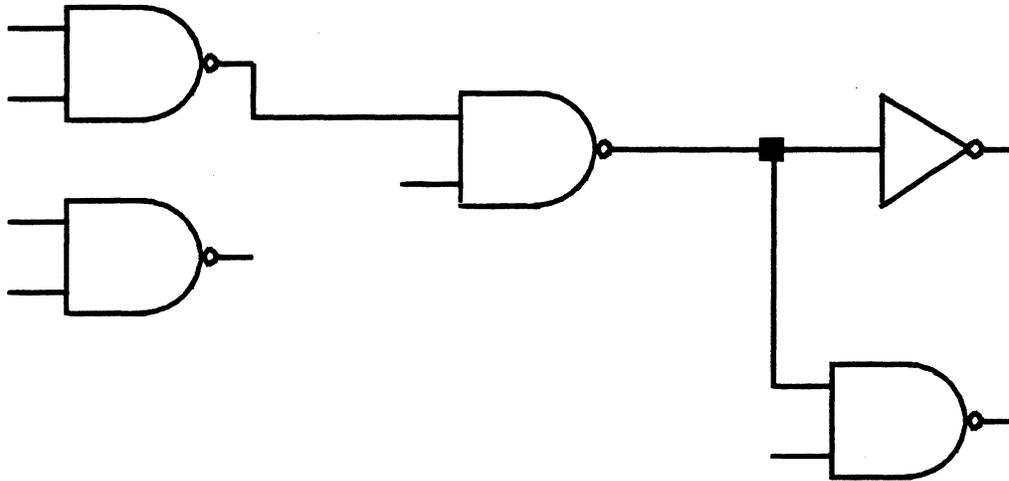

Figure 2.24
- 8) Bring up the EditNet Menu. The EditNet Menu gives you three options: **Apply Edit**, **Abort Edit**, and **Forget Last**. Select **Apply Edit** to apply the changes you made in the net's path (figure 2.24). Select **Abort Edit** to abort the changes. Like the right mouse button, **Forget Last** erases the last endpoint that you marked.